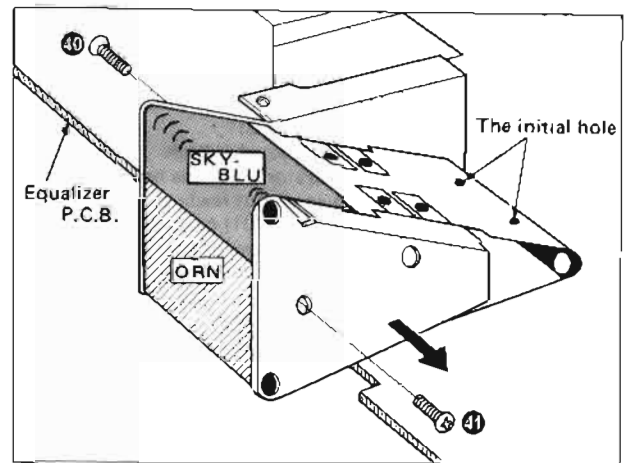
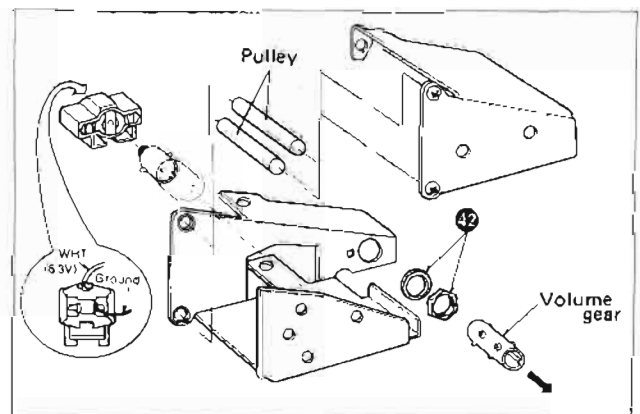

Fig. 5
Fig. 6
2. Remove the 2 setscrews (Photo 1: ④⑩ ~ ④⑪) and 6 connectors (Photo 1: ④⑫ ~ ④⑰) of the equalizer printed circuit board.
3. Remove the 2 setscrews (Photo 1: ④⑱ and ④⑲) of the chassis.
5. Remove the 2 setscrews (Fig. 5: ④⑩ and ④⑪) of the film bracket.
6. Slide the film bracket in the direction of the arrow in Fig. 5.
7. Slide the volume gear in the direction of the arrow in Fig. 6 to detach the volume gear from the motor assy.
8. Remove the 1 nut (Fig. 6: ④⑫) of the volume control.
2. Wind the volume film around the volume gear and pulley (see Fig. 5 and Fig. 6), then secure it with the film fixing plate.
In this case, the volume film should be positioned so that the initial hole of the film is engaged with the gear. (Refer to Fig. 5)